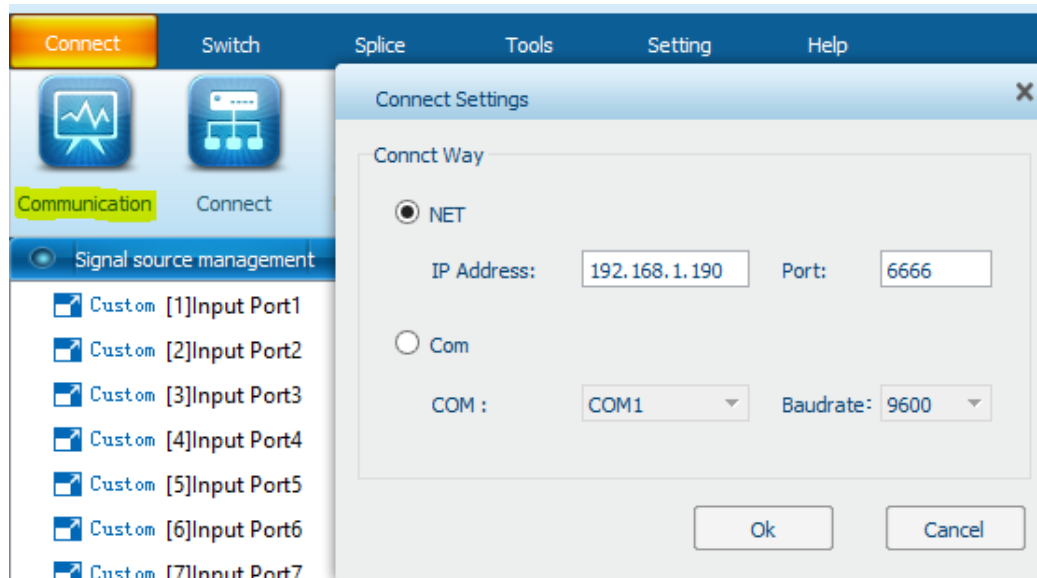

Figure 9: Communication Setting Window
- This will launch the Connect Settings window as shown above in figure 9